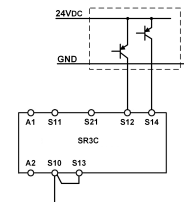

Fig. 8:
- For the applications according Fig. 8 and 9, make sure that the reference potential of the signal generator and the SR3C is the same